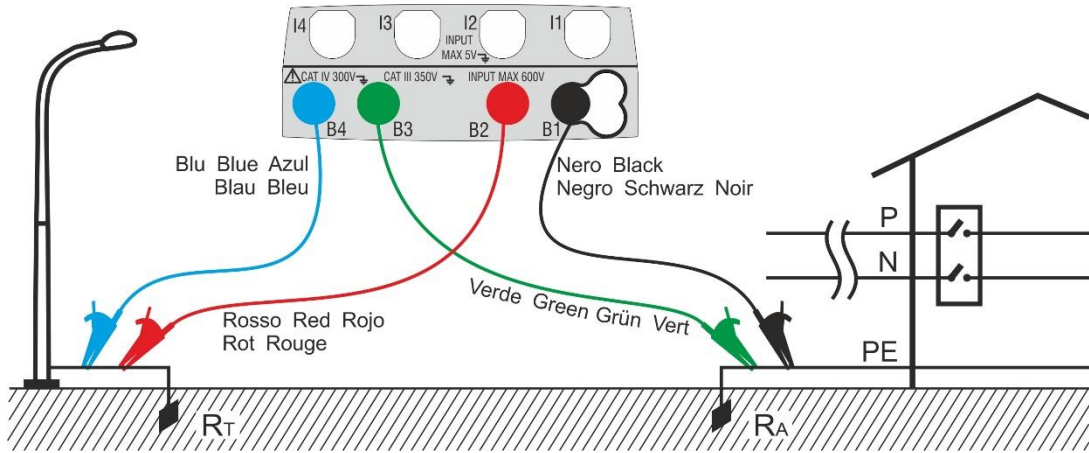
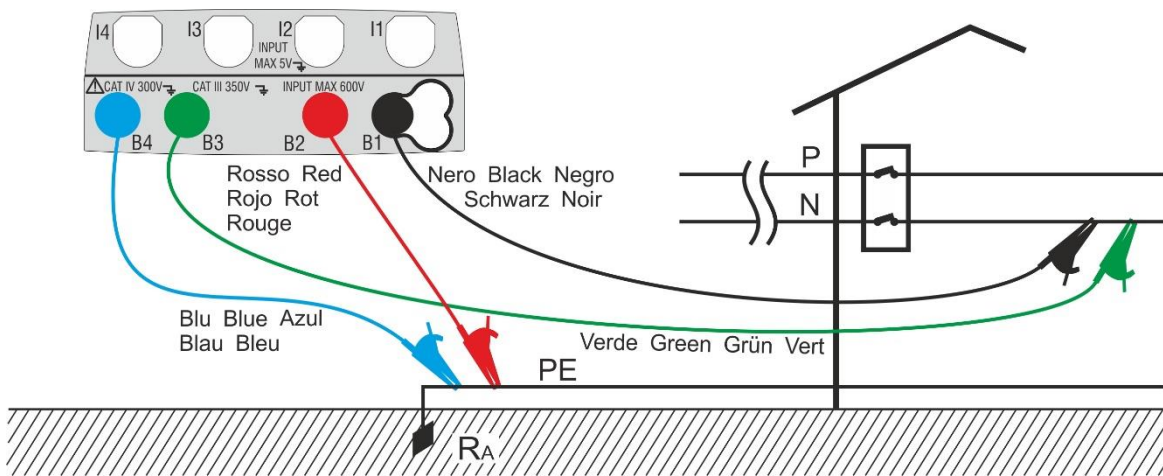

Fig. 28: Two-wire earth resistance measurement using an auxiliary rod
Fig. 29: Two-wire earth resistance measurement from the panel board
- 12 Connect the alligator clips to the auxiliary rods and to the installation under test according to Fig. 27, Fig. 28, Fig. 29 or Fig. 30.